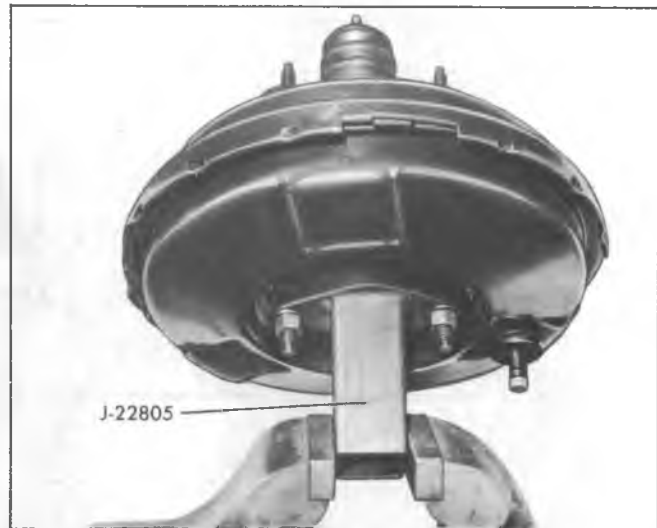

Fig. 3B-Holding Fixture using Tool J-22805
2. Position and secure Tool J-22805 (fig. 3B) to master cylinder mounting studs, and place tool and power unit in a vise. Be sure to align tool so that check valve in front shell is not damaged.